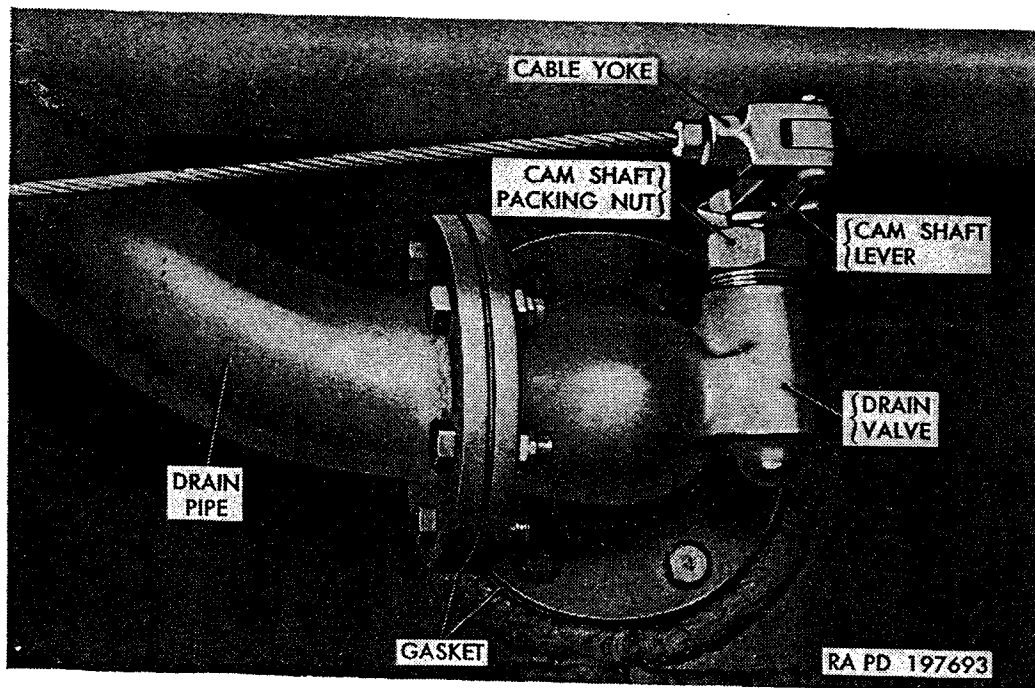

Figure 371. Drain valve and cable (rear shown).
e. *Drain Valve Assembly Replacement* (fig. 371). This procedure applies to either the front or rear tank compartment drain valve.
- (1) Remove three cap screws and nuts at each end of drain pipe cover and pull cover out from under rear of vehicle. Remove cotter pin and clevis pin attaching cable yoke to cam shaft lever.
- (2) Remove six nuts and cap screws attaching drain pipe flange to drain valve flange.
- (3) Remove six self-locking bolts attaching drain valve to tank sump. Break the gasket joints with a screwdriver; then re-
- (4) Make sure mating surfaces of valve body, drain pipe flange, and tank sump are clean. Coat both sides of new gaskets with gasket cement and position gaskets on drain pipe flange and on tank sump.
- (5) Place screen over valve and install eye on plunger rod. Position valve assembly at sump and drain pipe, being careful not to dislodge gaskets. Attach valve body to sump with six $\frac{3}{8}$ -16 x 1 self-locking bolts. Attach drain pipe flange to valve body with six $\frac{3}{8}$ -24 x $1\frac{1}{4}$ cap screw and $\frac{3}{8}$ -24 safety nuts. Tighten all bolts and nuts.
- (6) Connect cable yoke to cam shaft lever with clevis pin and cotter pin.
- (7) Install drain pipe cover under vehicle and secure in place at each end with three $\frac{1}{4}$ -20 x 1 cap screws and $\frac{1}{4}$ -20 safety nuts.
f. Drain Valve Control Cable Replacement (figs. 371 and 372). This procedure applies to either the front or rear tank compartment drain valve control cable. Cable to front compartment drain valve is 96 inches long, and cable to rear compartment drain valve is 36 inches long.
- (1) Remove three cap screws and nuts at each end of drain pipe cover and pull cover out from under rear of vehicle to gain access to cable connection at drain valve.
- (2) To disconnect cable at drain valve cam shaft lever, unscrew ferrule from cable yoke; then pull cable and inserts out of